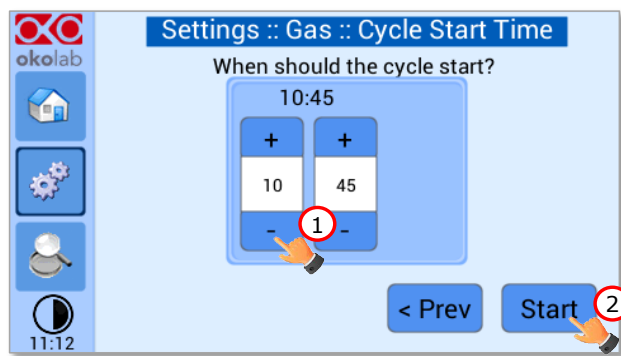

Figure 44. Cycle Start.
- Schedule the time for the concentration cycle to start (see Figure 44).